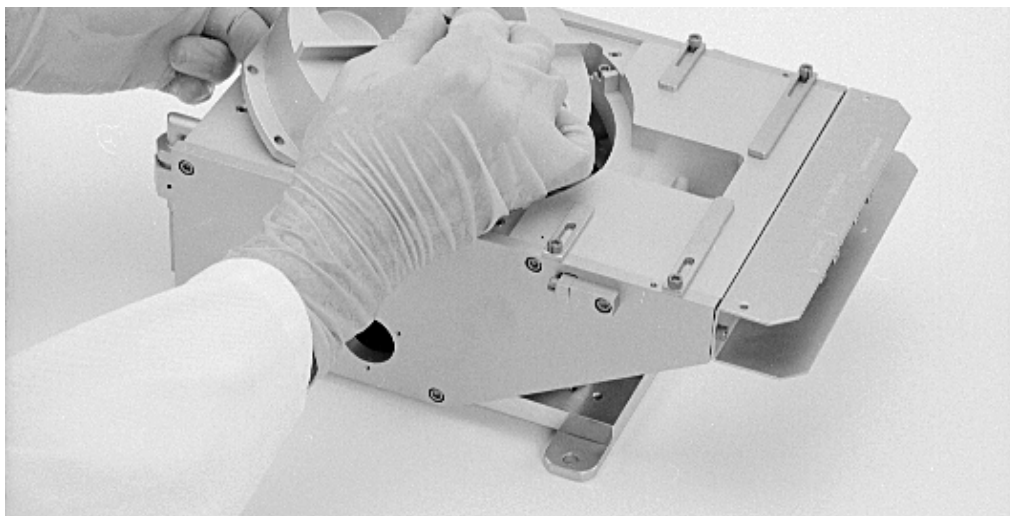

Figure 6-9. Removing the crucible from the source. Note angle of withdrawal.
- (b) Raise rear edge of crucible until it just clears the edge of the coil housing to the rear of the crucible (see Figure 6-9).
- (b) Angle the crucible into the position shown in Figure 6-9. Next, lower its rear end so that its bottom surface is horizontal; then lower the crucible straight down onto the O-ring. As you perform this step, take great care to avoid scraping the underside of the crucible's O-ring-sealing surface against the water baffle.